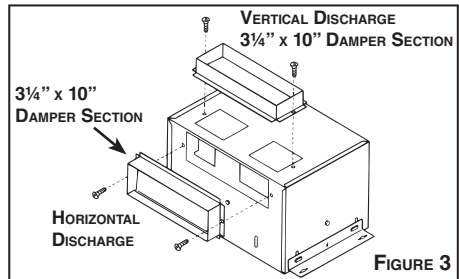

FIGURE 3
4. Refer to Figure 3. Mount 3/4" x 10" damper section on top of housing for vertical discharge or on the side of housing for horizontal discharge with two screws (included).